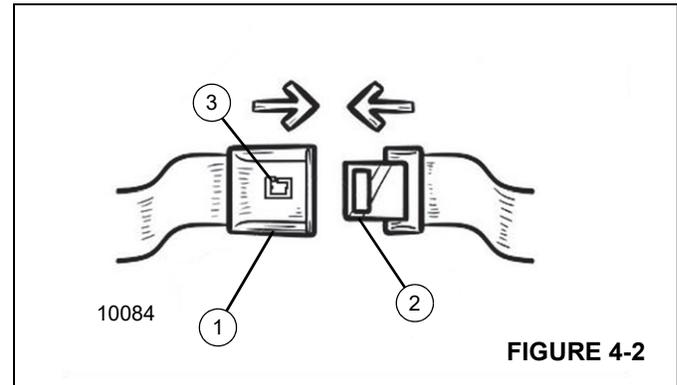

FIGURE 4-2
2. Pull belt across your lap and push latch plate (2) into buckle (1) until it clicks (Figure 4-2).
4. To release seat belt, push the push button (3) at the buckle (1).